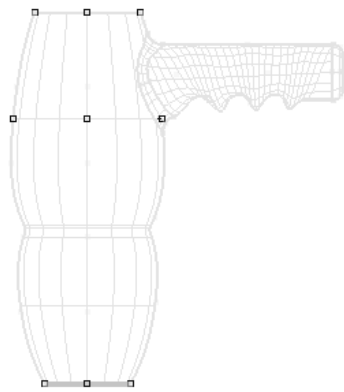

Figure 11-84 Highlighted modifier
5. Choose the **Accept Modifiers** button; the selected modifier is highlighted in blue, as shown in Figure 11-84. Also, the **Go** button is displayed at the lower right corner of the active window.